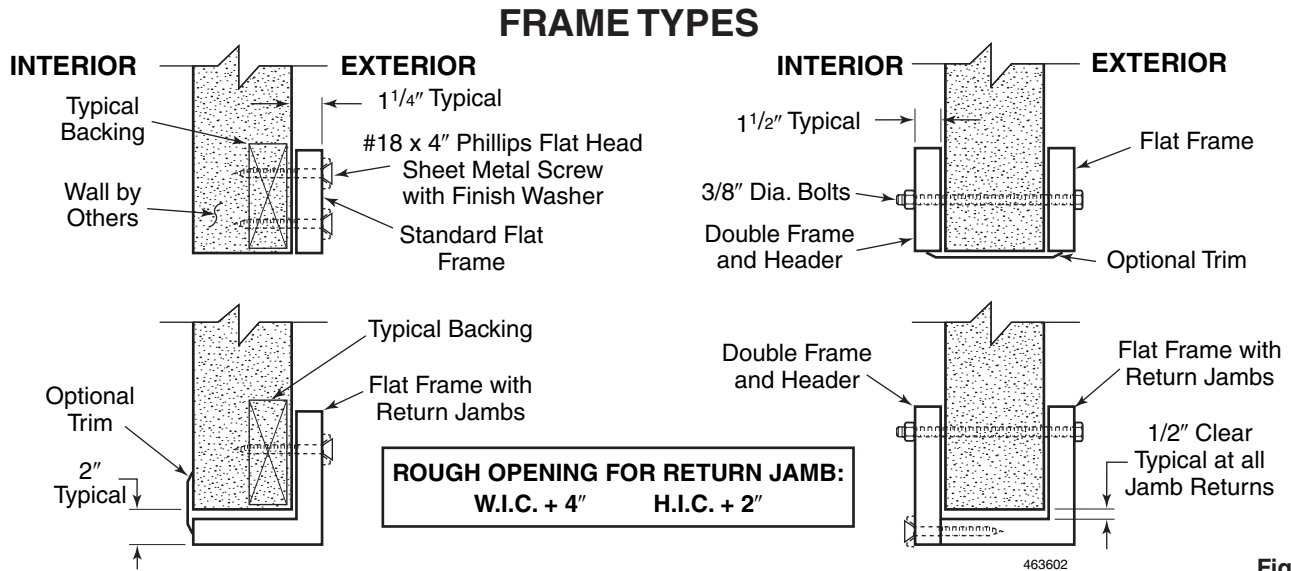

Figure 1
2. Before installing the door frame, check for proper backing in the wall. See Figure 1.